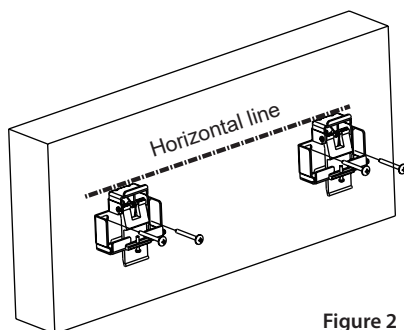

Figure 2
1. For mounting on a solid stone / concrete wall please use the heavy-duty dowels (j) or plastic dowels (h). Determine the position for mounting the mounting brackets (b) according to the housing dimensions and the height of the projection screen. Draw a horizontal line (spirit level) to install the two mounting brackets at the same height. (see Fig. 2)